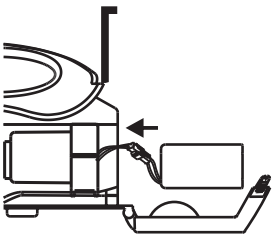

Fig. 9
- (D) Connect a new rechargeable battery pack to the connecting cable. Slide the battery pack back into the slot carefully. Insert the interior steel plate downwards, See Fig. 9 & 10.